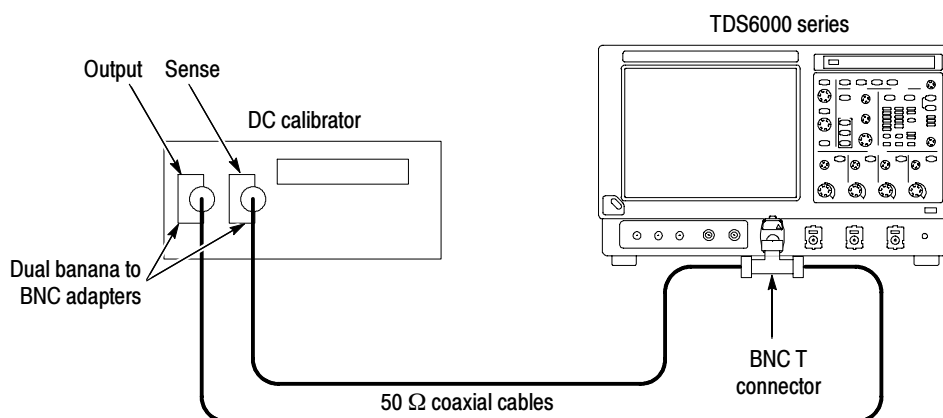

Figure 4-3: Initial test hookup
- Connect the output of a DC calibration generator through a dual-banana connector followed by a 50 Ω precision coaxial cable to one side of a BNC T connector. See Figure 4-3.
- Connect the Sense output of the generator through a second dual-banana connector followed by a 50 Ω precision coaxial cable to the other side of the BNC T connector. Now connect the BNC T connector to **CH 1** through an adapter. See Figure 4-3.